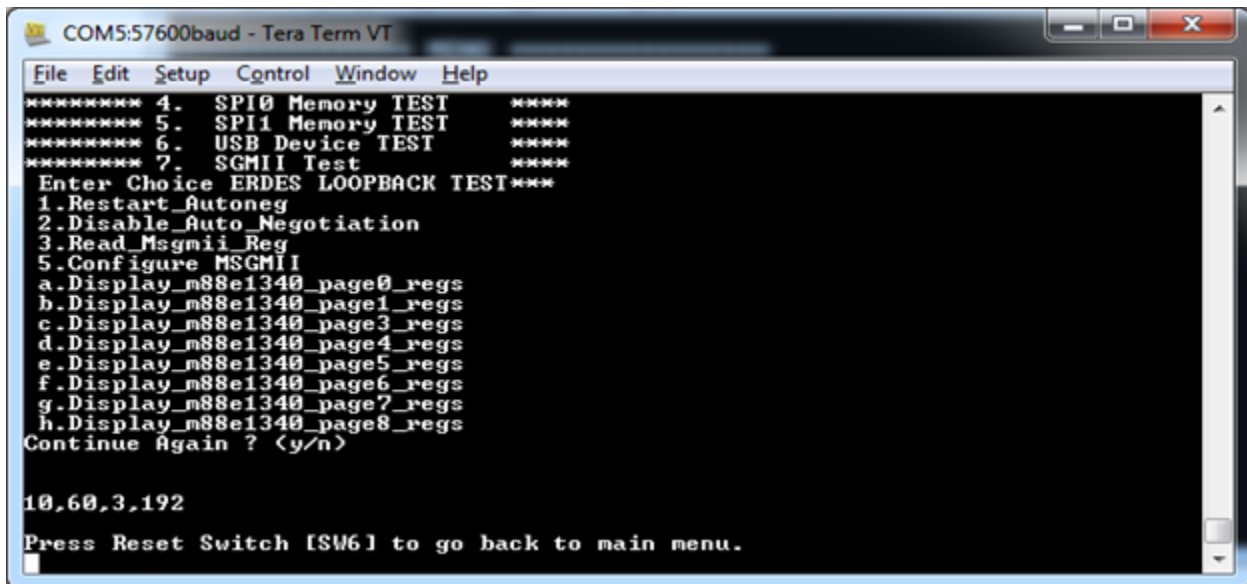

Figure 38 - SGMII Test Passed
- c. A confirmation message is displayed, Press **n** twice. Refer to Figure 38. When the test is passed, the IP address of the Host PC is displayed.